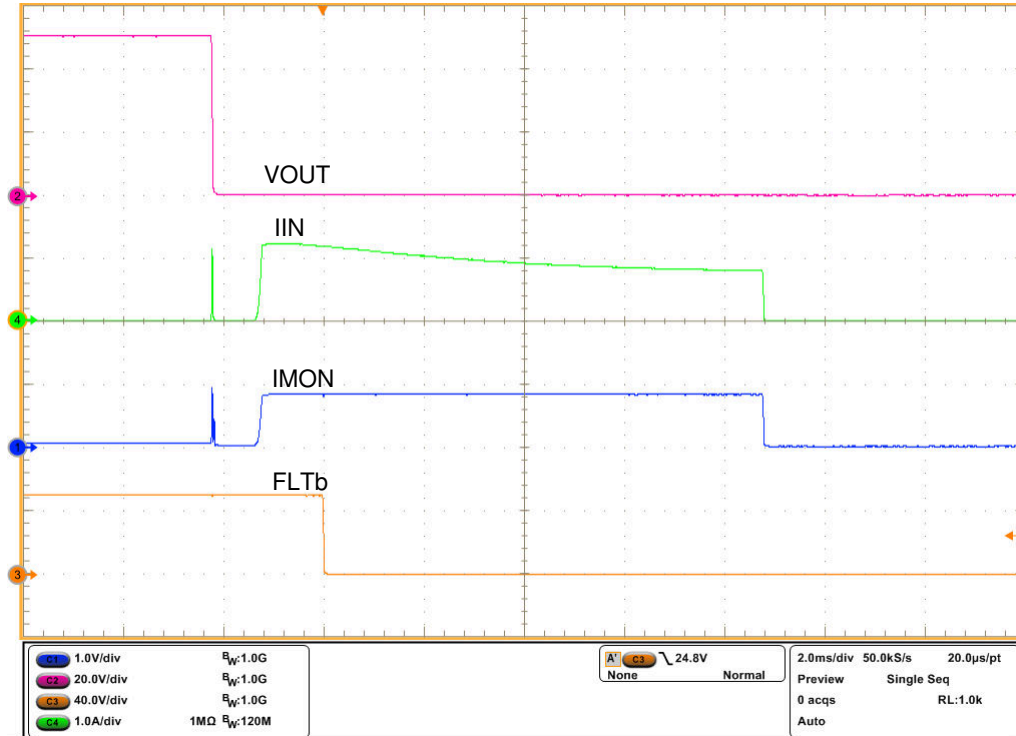

Figure 3-3. Output Short-Circuit Protection
4. Verify the output short-circuit response waveform as shown in Figure 3-3.